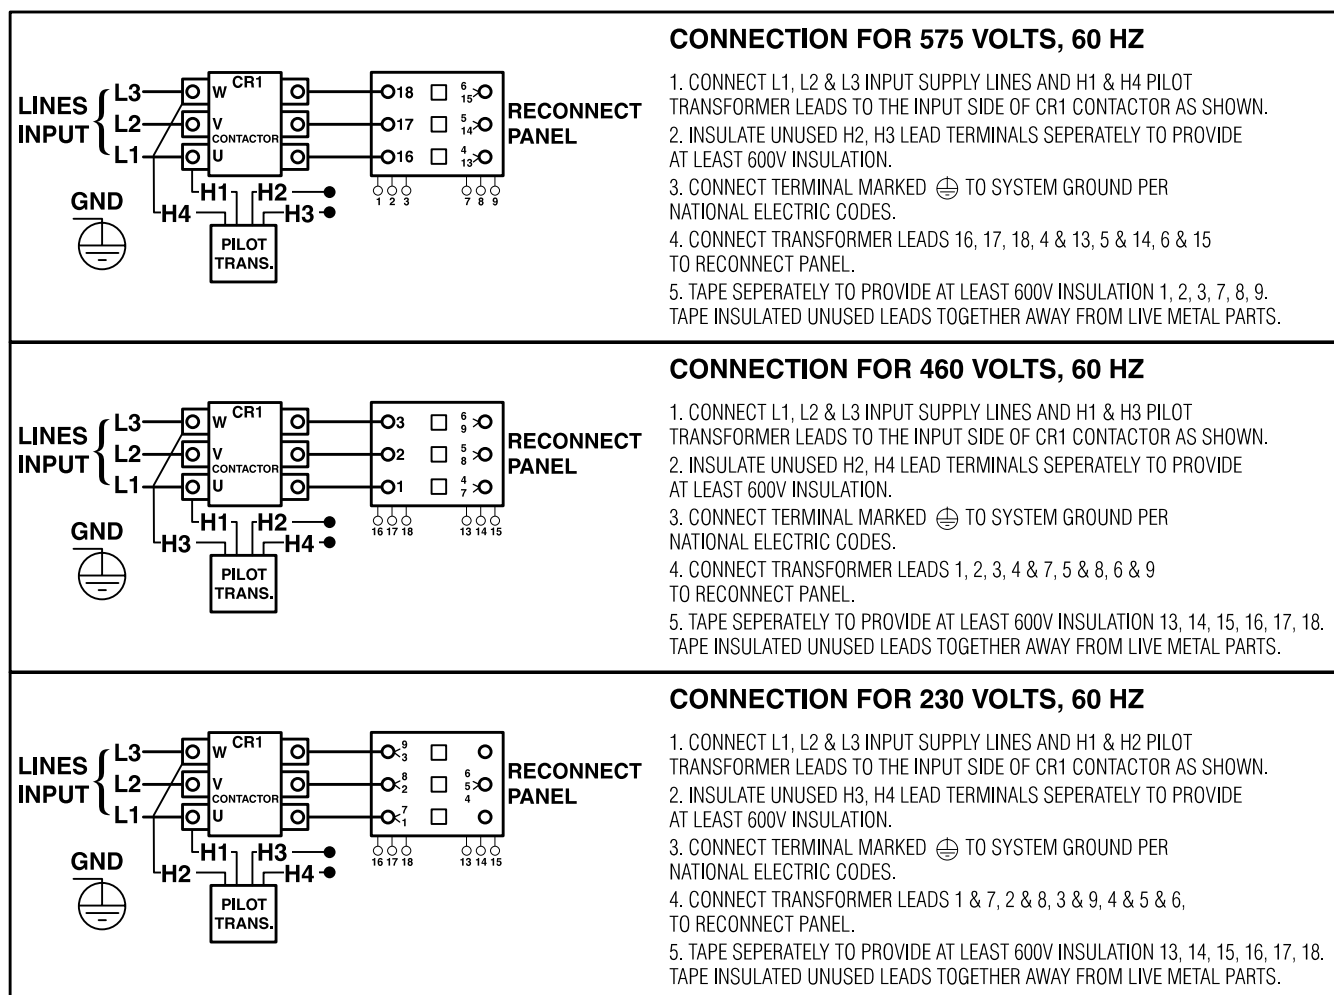

FIGURE A.4-Reconnect Panel Board Positions for 230/460/575 VAC Machines
1. For 230/460/575, see Figure A.4. (M15666)